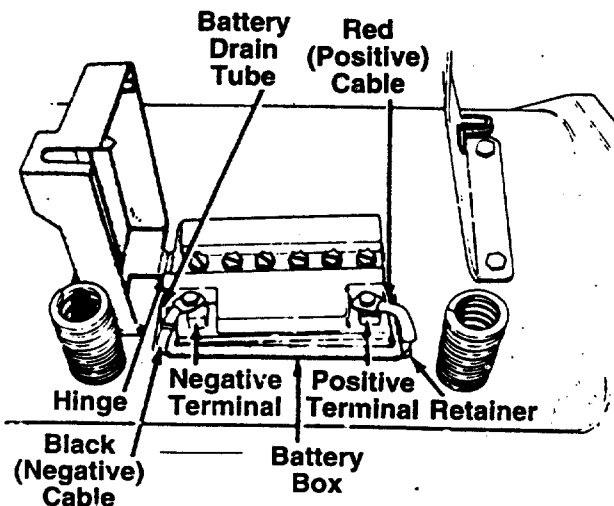

FIGURE 3.
3. Place the battery inside the battery box so that the positive terminal is toward the right side of the unit. See figure 3. Route the battery drain tube down beside the battery box.